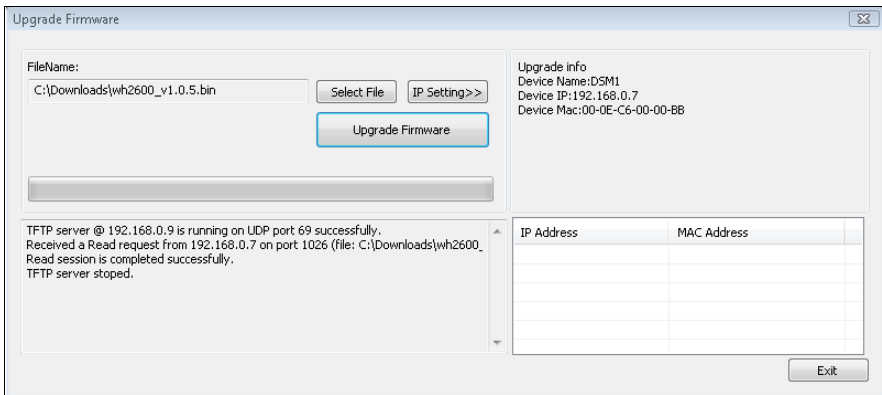

Figure 34
- Once the firmware upgrade is complete, the dialog box will display **Read session is completed successfully**, as shown in Figure 34.